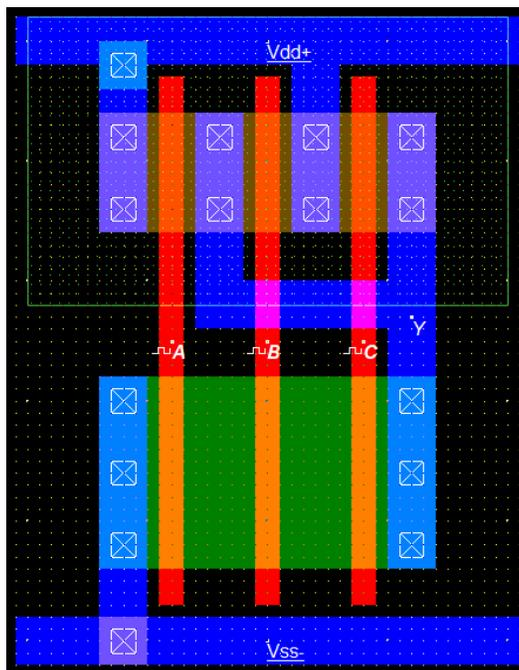

Figure 7
Then place appropriate input (clock) signals on polysilicon fingers, and VDD and GND on rails. Lastly, place a “Visible node” on output (Y) terminal. The final layout of CMOS NAND3 is depicted in Fig. 7.